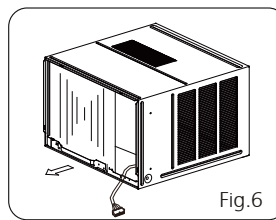

Fig.6
2. Grasp the handle on the chassis and carefully slide the air conditioner out of the cabinet. (see Fig.6)
2. Grasp the handle on the chassis and carefully slide the air conditioner out of the cabinet.(see Fig.6)
3. Grasp the handle on the chassis and carefully slide the air conditioner out of the cabinet.(see Fig.6)